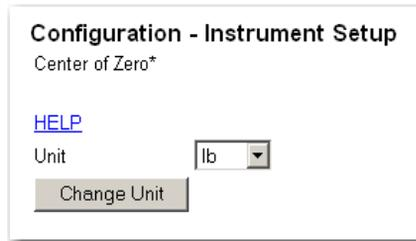

FIG. 190 INSTRUMENT SETUP/SELECTING UNITS (LB)
Step 3. Click on the units you want for this instrument. In our example we selected pounds (lb). (See Fig. 190)